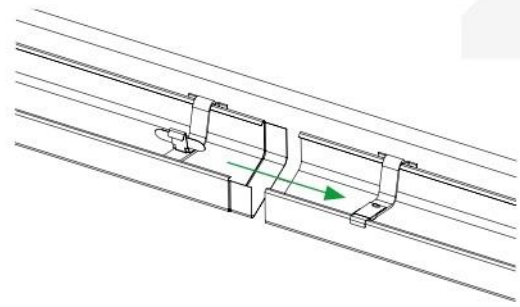

Figure 16
- h) Insert the second gutter into the brackets and slide its stamped tip into the first gutter (**Fig. 16**).